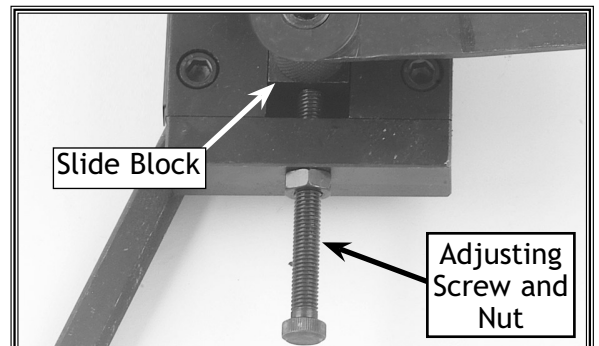

Figure 12. Adjustment screw against the slide block.
Tip: Use the time-saving adjustment screw shown in Figure 12. This screw is a stop or a reference point that can be locked in place to ensure repeatability of a bend.
Tip: Use the time-saving adjustment screw shown in **Figure 12**. This screw is a stop or a reference point that can be locked in place to ensure repeatability of a bend.
1. When the desired radii is achieved, do not release pressure on the hand lever until the adjustment screw is snug against the slide block (**Figure 12**).
2. Tighten the adjustment nut until it is in contact with the rear block (**Figure 12**).